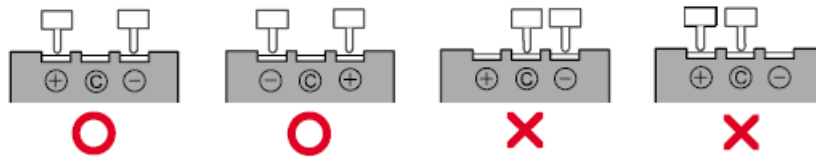

Fig. 6.1
4. When the Charger is powered by AC or 12V vehicle as power source, it can charge maximum one (1) lithium-ion battery in tray and two hand-held devices via USB output port simultaneously.
5. Some lithium batteries (Sony, JVC, Panasonic, etc...) come with “security charging terminal” marked with letter “C”, DO NOT contact these terminals with spring contactors during charging to avoid irrevocable damage. (Fig. 6.1)